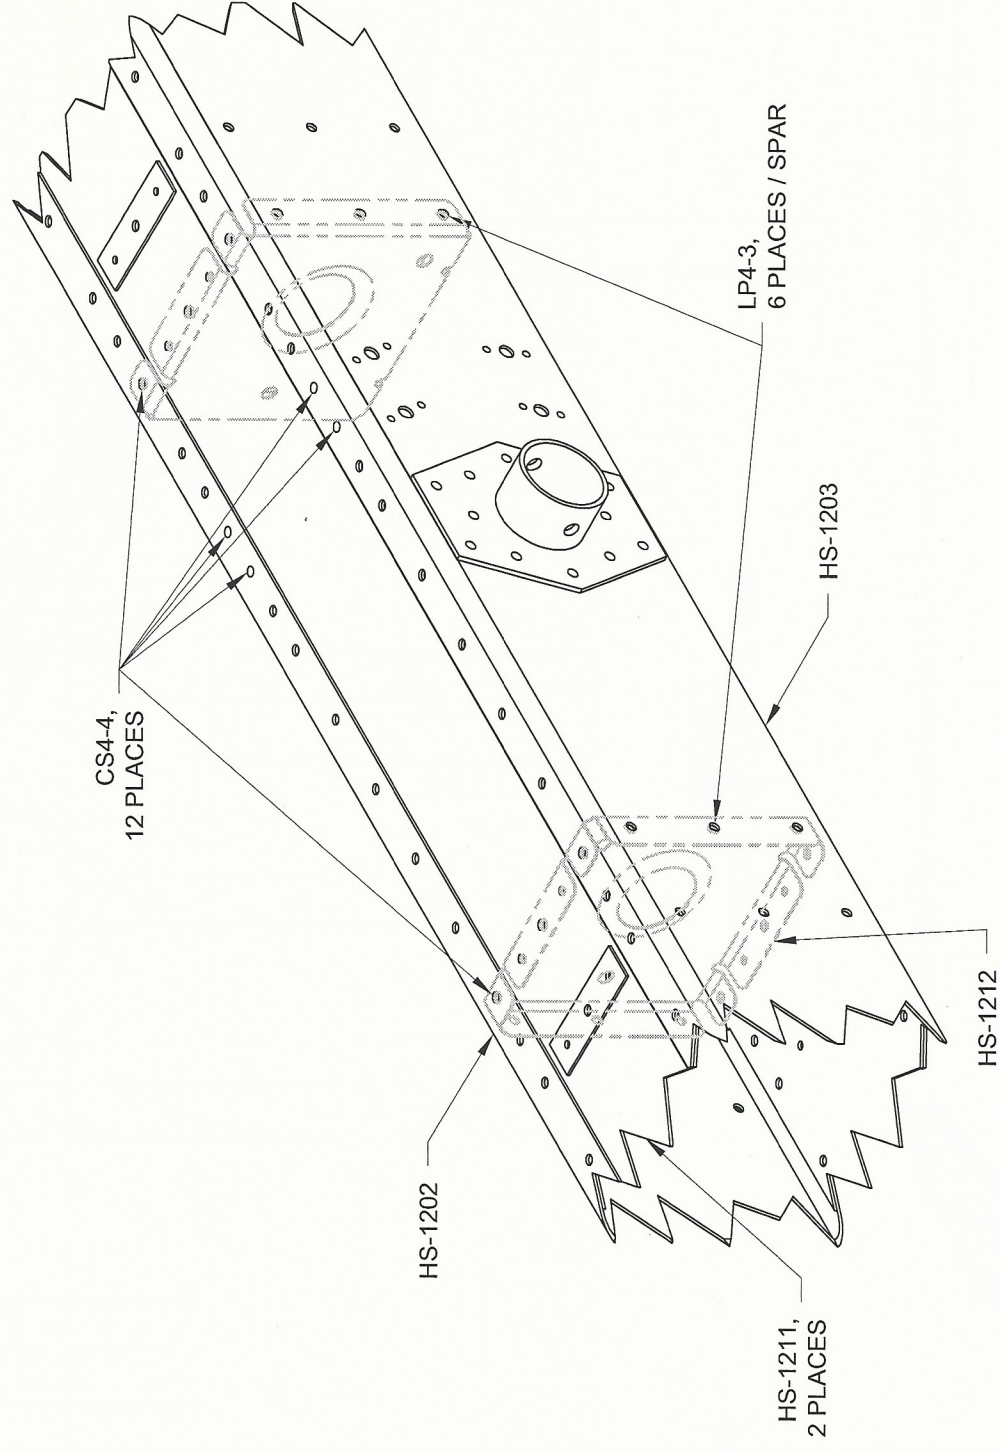

FIGURE 3:
Step 4: Rivet the previously countersunk holes in both flanges of the HS-1202 Fwd and HS-1203 Aft Spar to the HS-1211 Spar Caps per call-out in Figure 3.
Step 5: Rivet the HS-1202 Fwd and HS-1203 Aft Spar to the inboard HS-1212 Inspar Ribs using rivets called out in Figure 3.